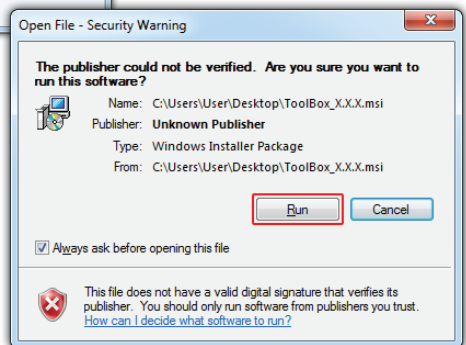

Fig 2
- A** Double-click on the extracted .msi install file. This will launch the ToolBox installer. Depending on your security settings, a 'Security Warning' dialogue may appear (Fig 2). If you see the security message, click 'Run'.